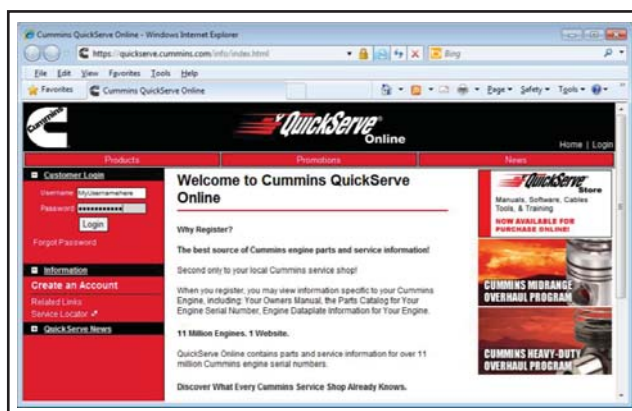

Figure 1 - Log on Screen
- 1.1. Log on to <https://quickserve.cummins.com/info/index.html> to download the calibration file. See Figure 1.